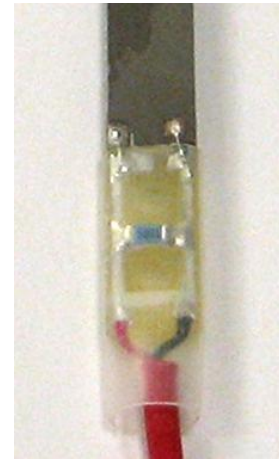

Fig. 4.3S Proper placement of the heat-shrink tubing.
- 4.3S Cut a $\frac{7}{8}$ " length of $\frac{1}{8}$ " clear heat-shrink tubing. Affix this to the base of the bending actuator so that the top of the clear heat-shrink tubing meets the bottom of the piezoceramic rectangle of the bending actuator as shown in figure 4.3S below. Sliding the heat-shrink tubing over the base of the bending actuator will be a tight fit. If the heat-shrink tubing gets stuck on the resistor on the base, you can use the tip of an exacto-knife to gently pull the lip of the heat-shrink tubing over it. Be patient and gentle, and always make sure to grip the bending actuator on its base, and not on the fragile piezoceramic piece.